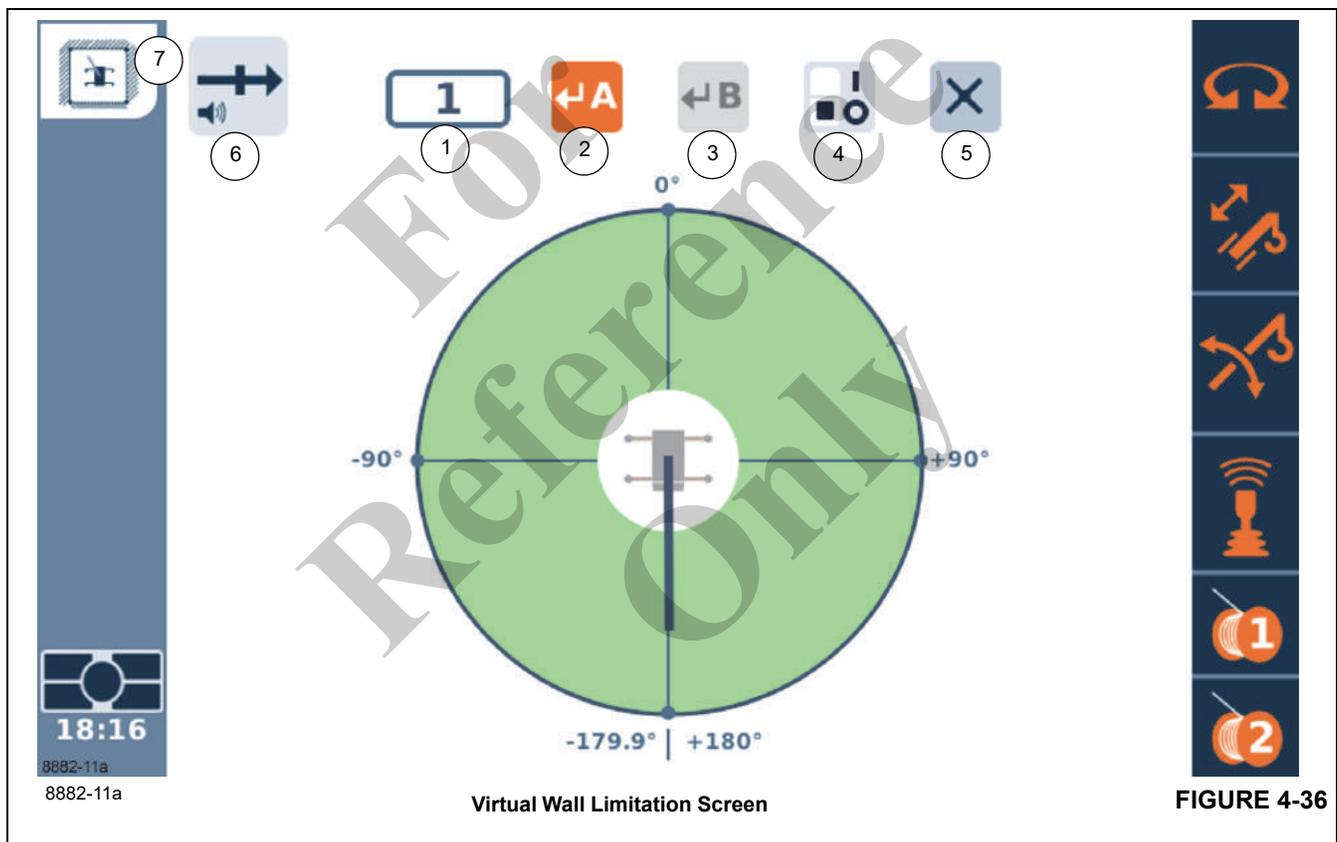
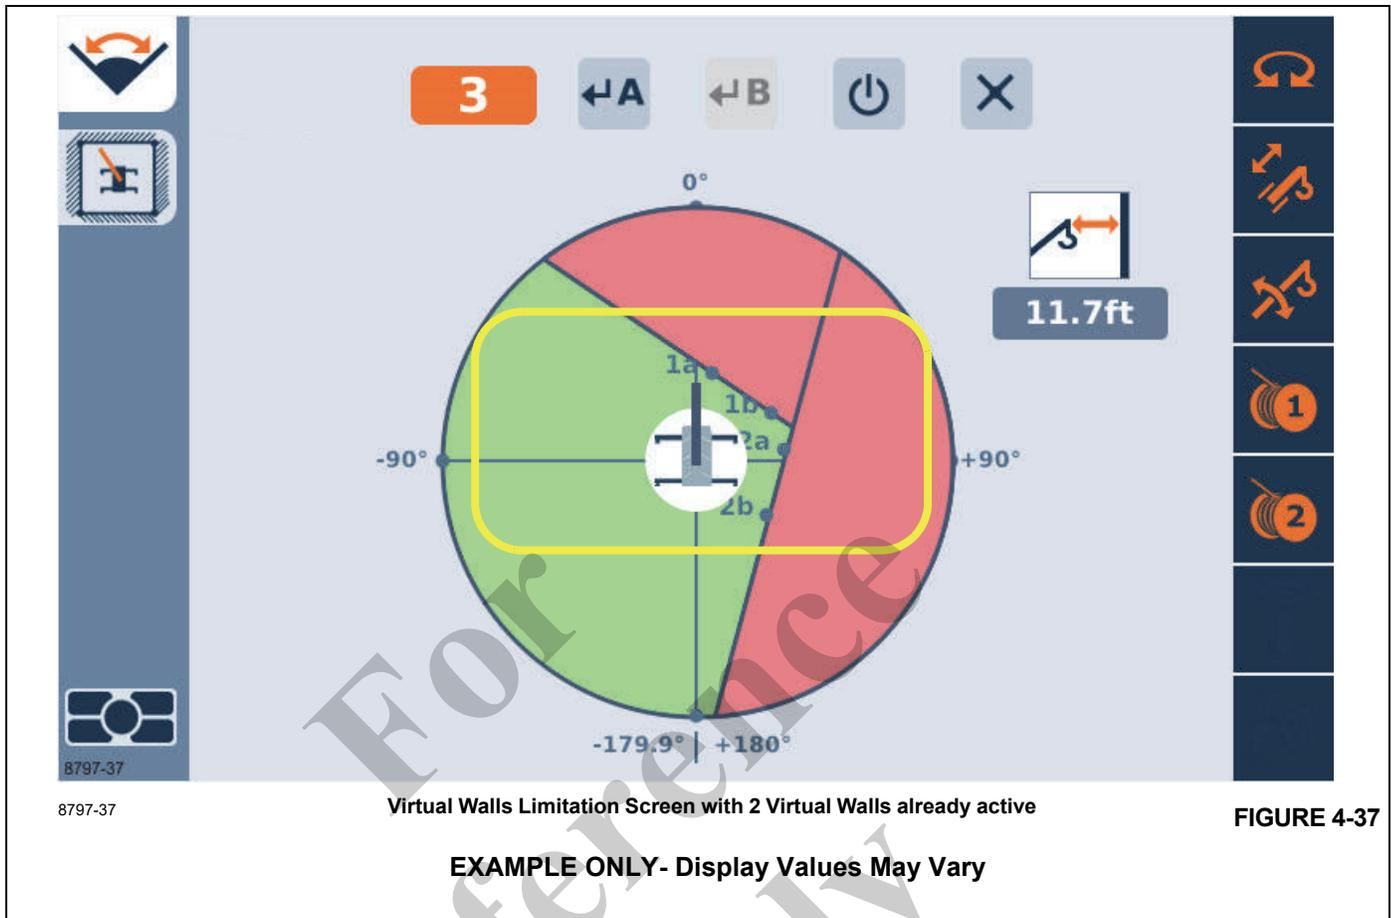

FIGURE 4-36
FIGURE 4-37
If the Virtual Wall Limitation is selected from the menu of WRL Limitations, then the Virtual Wall Limitation Screen will be shown (Figure 4-36).
As the arrow keys are pressed, the highlight will move between the objects, with the color orange typically meaning that the object is selected and can be affected by subsequent actions. In Figure 4-36, one can see that the wall Point "A" Symbol is selected since it has the orange color highlighting.
1. Select the Virtual Walls Limitation Screen (6), (Figure 4-30) on the Main Menu Screen (and in this case there would not be any virtual walls shown as defined or active) as noted in the Virtual Walls Number (1), (Figure 4-36). (Note: The number “1” indicates the number of virtual walls and can be up to “5” five virtual walls defined.)
3. Use the Right Arrow (4), (Figure 4-21) Function key to highlight the Accept Crane Position Point A Symbol (2), (Figure 4-36).
4. Use an OK Button (5), (Figure 4-21) to accept the current crane position to be Point A (2). The location of the point should now be shown on the screen with a label of '1a' as indicated in the yellow box in the sample in (Figure 4-37).
5. Position the crane so that the hook is located at the position to define the second point of the Virtual Wall (Point B), or Item 3, (Figure 4-36). **NOTE:** The two points may not be so close to each other that a virtual wall is not clearly defined. The two points should be at least 10 ft apart.
6. Use the Right Arrow (4), (Figure 4-21) Function key to highlight the Accept Crane Position Point B Symbol (3), (Figure 4-36).
7. Use an OK Button (5), (Figure 4-21) to accept the current crane position to be Point B. The location of the point should now be shown on the screen with a label of '1b' as indicated in the yellow box in the sample (Figure 4-37).
**NOTE:** The Virtual Wall Number 3, as shown in the EXAMPLE in the orange box in Figure 4-37, increments if the second wall was just defined, so that it is ready to define a subsequent Virtual Wall, if so desired.
1. Be sure you are on the Virtual Walls Limitation Screen Icon (7), (Figure 4-36).
2. Use the Right Arrow (4), (Figure 4-21) function key to highlight the Virtual Wall Number Item (1), (Figure 4-36).
4. Position the crane so that the hook is located at the position to define the first point of the Virtual Wall (Point A or Item 2) as shown in Figure 4-36.
5. Use the Right Arrow (4), (Figure 4-21) Function key to highlight the Accept Crane Position Point A Symbol (2), (Figure 4-36).
6. Use an OK Button (5), (Figure 4-21) to accept the current crane position to be Point A as shown in Figure 4-36. The location of the point should now be shown on the screen with a label that shows the wall number and the letter 'a' as shown in the yellow highlight in the sample Figure 4-37.
7. Position the crane so that the hook is located at the position to define the second point of the Virtual Wall (Point B or Item 3), (Figure 4-36).
8. Use the Right Arrow (4), (Figure 4-21) Function key, if needed, to highlight the Accept Crane Position Point B Item (3), (Figure 4-36).
9. Use an OK (5), (Figure 4-21) Button to accept the current crane position to be Point B (3), (Figure 4-36). The location of the point should now be shown on the screen with a label (1b) as shown in yellow highlight in Figure 4-37.
2. Use the Right Arrow (4), (Figure 4-21) key and to highlight the Virtual Wall Number (1), (Figure 4-36).
3. If the wall number shown is not the correct number for wall to be disabled, use an OK Button (5), (Figure 4-21) to allow you to modify the value. (In other words, be sure that the number of walls you set matches the Virtual Walls Number (1), (Figure 4-36).
5. Use the Left Arrow and/or Right Arrow (4), (Figure 4-21) keys or the Jog Dial (5), (Figure 4-22) to highlight the Enable/Disable Switch Symbol (4), (Figure 4-36).
2. Use the Right Arrow (4), (Figure 4-21) Function to highlight the Virtual Wall Number (1), (Figure 4-36).
3. If the wall number shown is not the correct number for wall to be disabled, use an OK Button (5), (Figure 4-21) to allow you to modify the value. (In other words, be sure that the number of walls you set matches the Virtual Walls Number (Item 1), (Figure 4-36).
4. Use the Left Arrow and/or Right Arrow (4), Figure 4-21 key to highlight the "X" or the Remove Virtual Walls Symbol (5), (Figure 4-36). Use an OK Button (5), (Figure 4-21) or the Jog Dial (5), (Figure 4-22) to delete the wall.